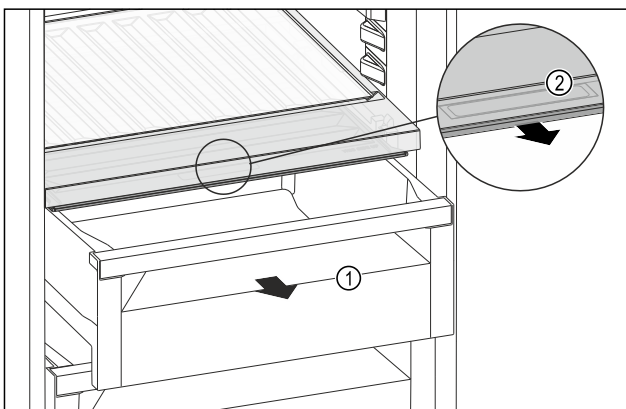

Fig. 168
- ▶ Pull out the drawer Fig. 168 (1).
- ▶ Grip the handle recess Fig. 168 (2) on the lid while pulling the lid forward at the same time.